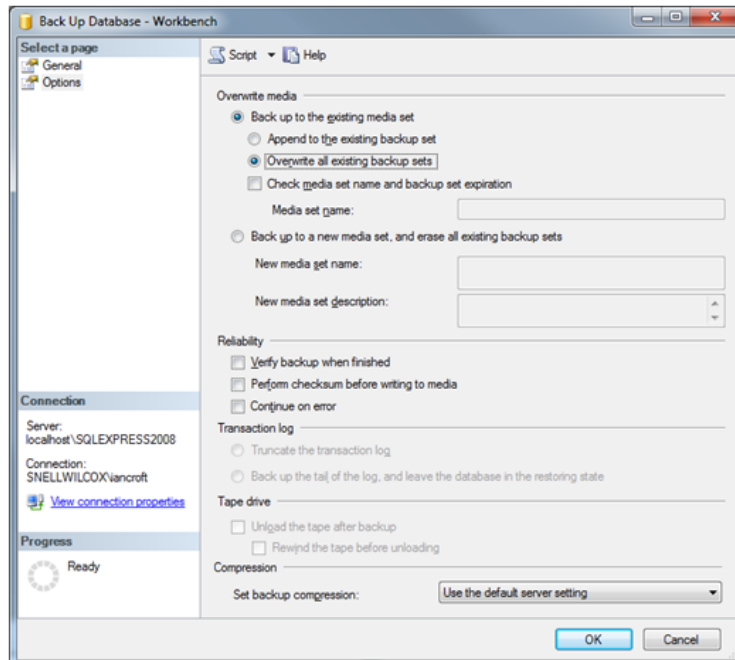

Figure 43 Backup Database - Options Page
- 7. Select **Overwrite an existing backup set** from the **Options** page (see Figure 43) Do not select the default **Append to the existing backup set** option.